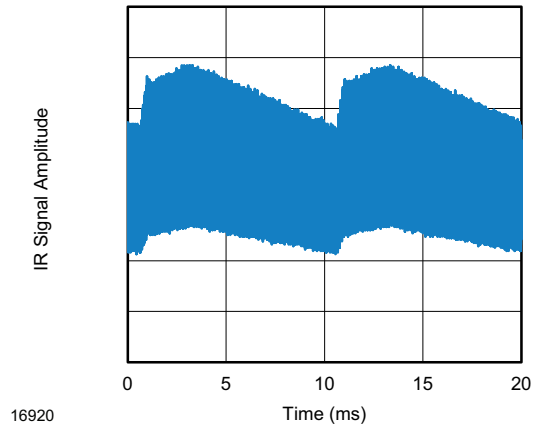
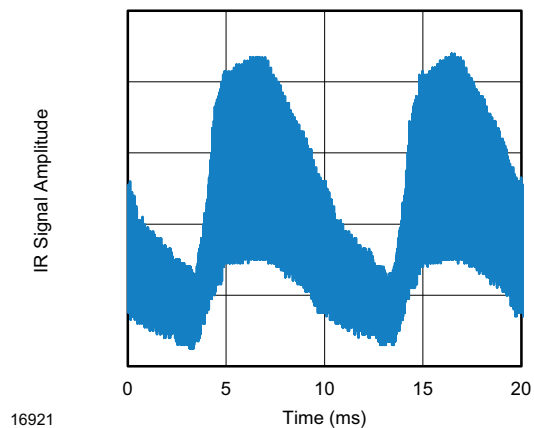

Fig. 14 - IR Disturbance from Fluorescent Lamp with Low Modulation
Fig. 15 - IR Disturbance from Fluorescent Lamp with High Modulation
- Strongly or weakly modulated patterns from fluorescent lamps with electronic ballasts (see Fig. 14 or Fig. 15).
| Suppression of interference fromfluorescent lamps                            | Mild disturbance patternsare suppressed (example:signal pattern of Fig. 14) | Complex disturbance patternsare suppressed (example:signal pattern of Fig. 15) | Critical disturbancepatterns are suppressed,e.g. highly dimmed LCDs |